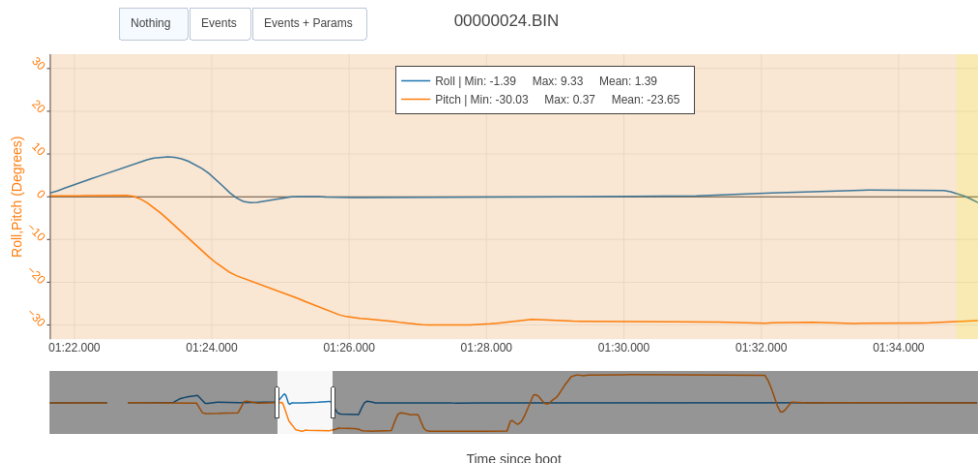

Figure 2: Launch to Waypoint 1 (Pitch, Roll vs Time)
- It can be observed from fig. 2 that the mean roll angle is 0° and mean pitch angle is about -23.65° (pitching down). During this part of the mission there is zero wind.